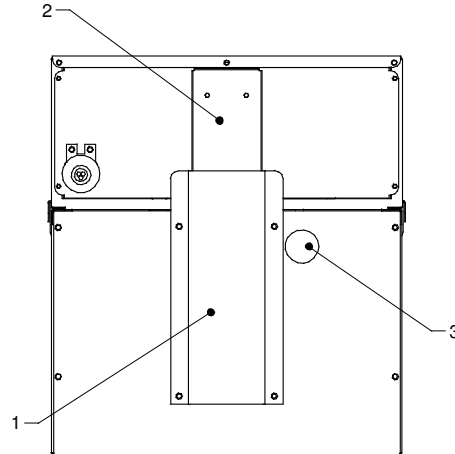

Fig 2
- Disconnect the unit from the power supply. Remove the batter plate, lift the control head out of the rear channel (Fig 2) and clean the tank with a little hot water and mild detergent.
- The re-set button is located below the control head (See Fig 2) inside the access hole. Push button upwards to re-set.